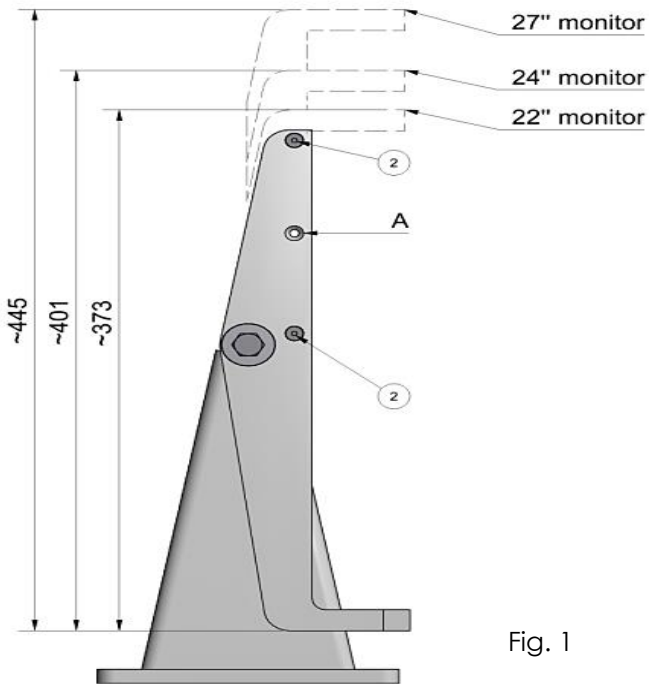

Fig. 1
1. Untie and remove the two screws on each side of the bracket (position ② fig.1)
3. Refit and fasten the screws again. For DuraMON 27" only, use two extra screws (bracket kit, item no. 2) for position A (fig. 1)